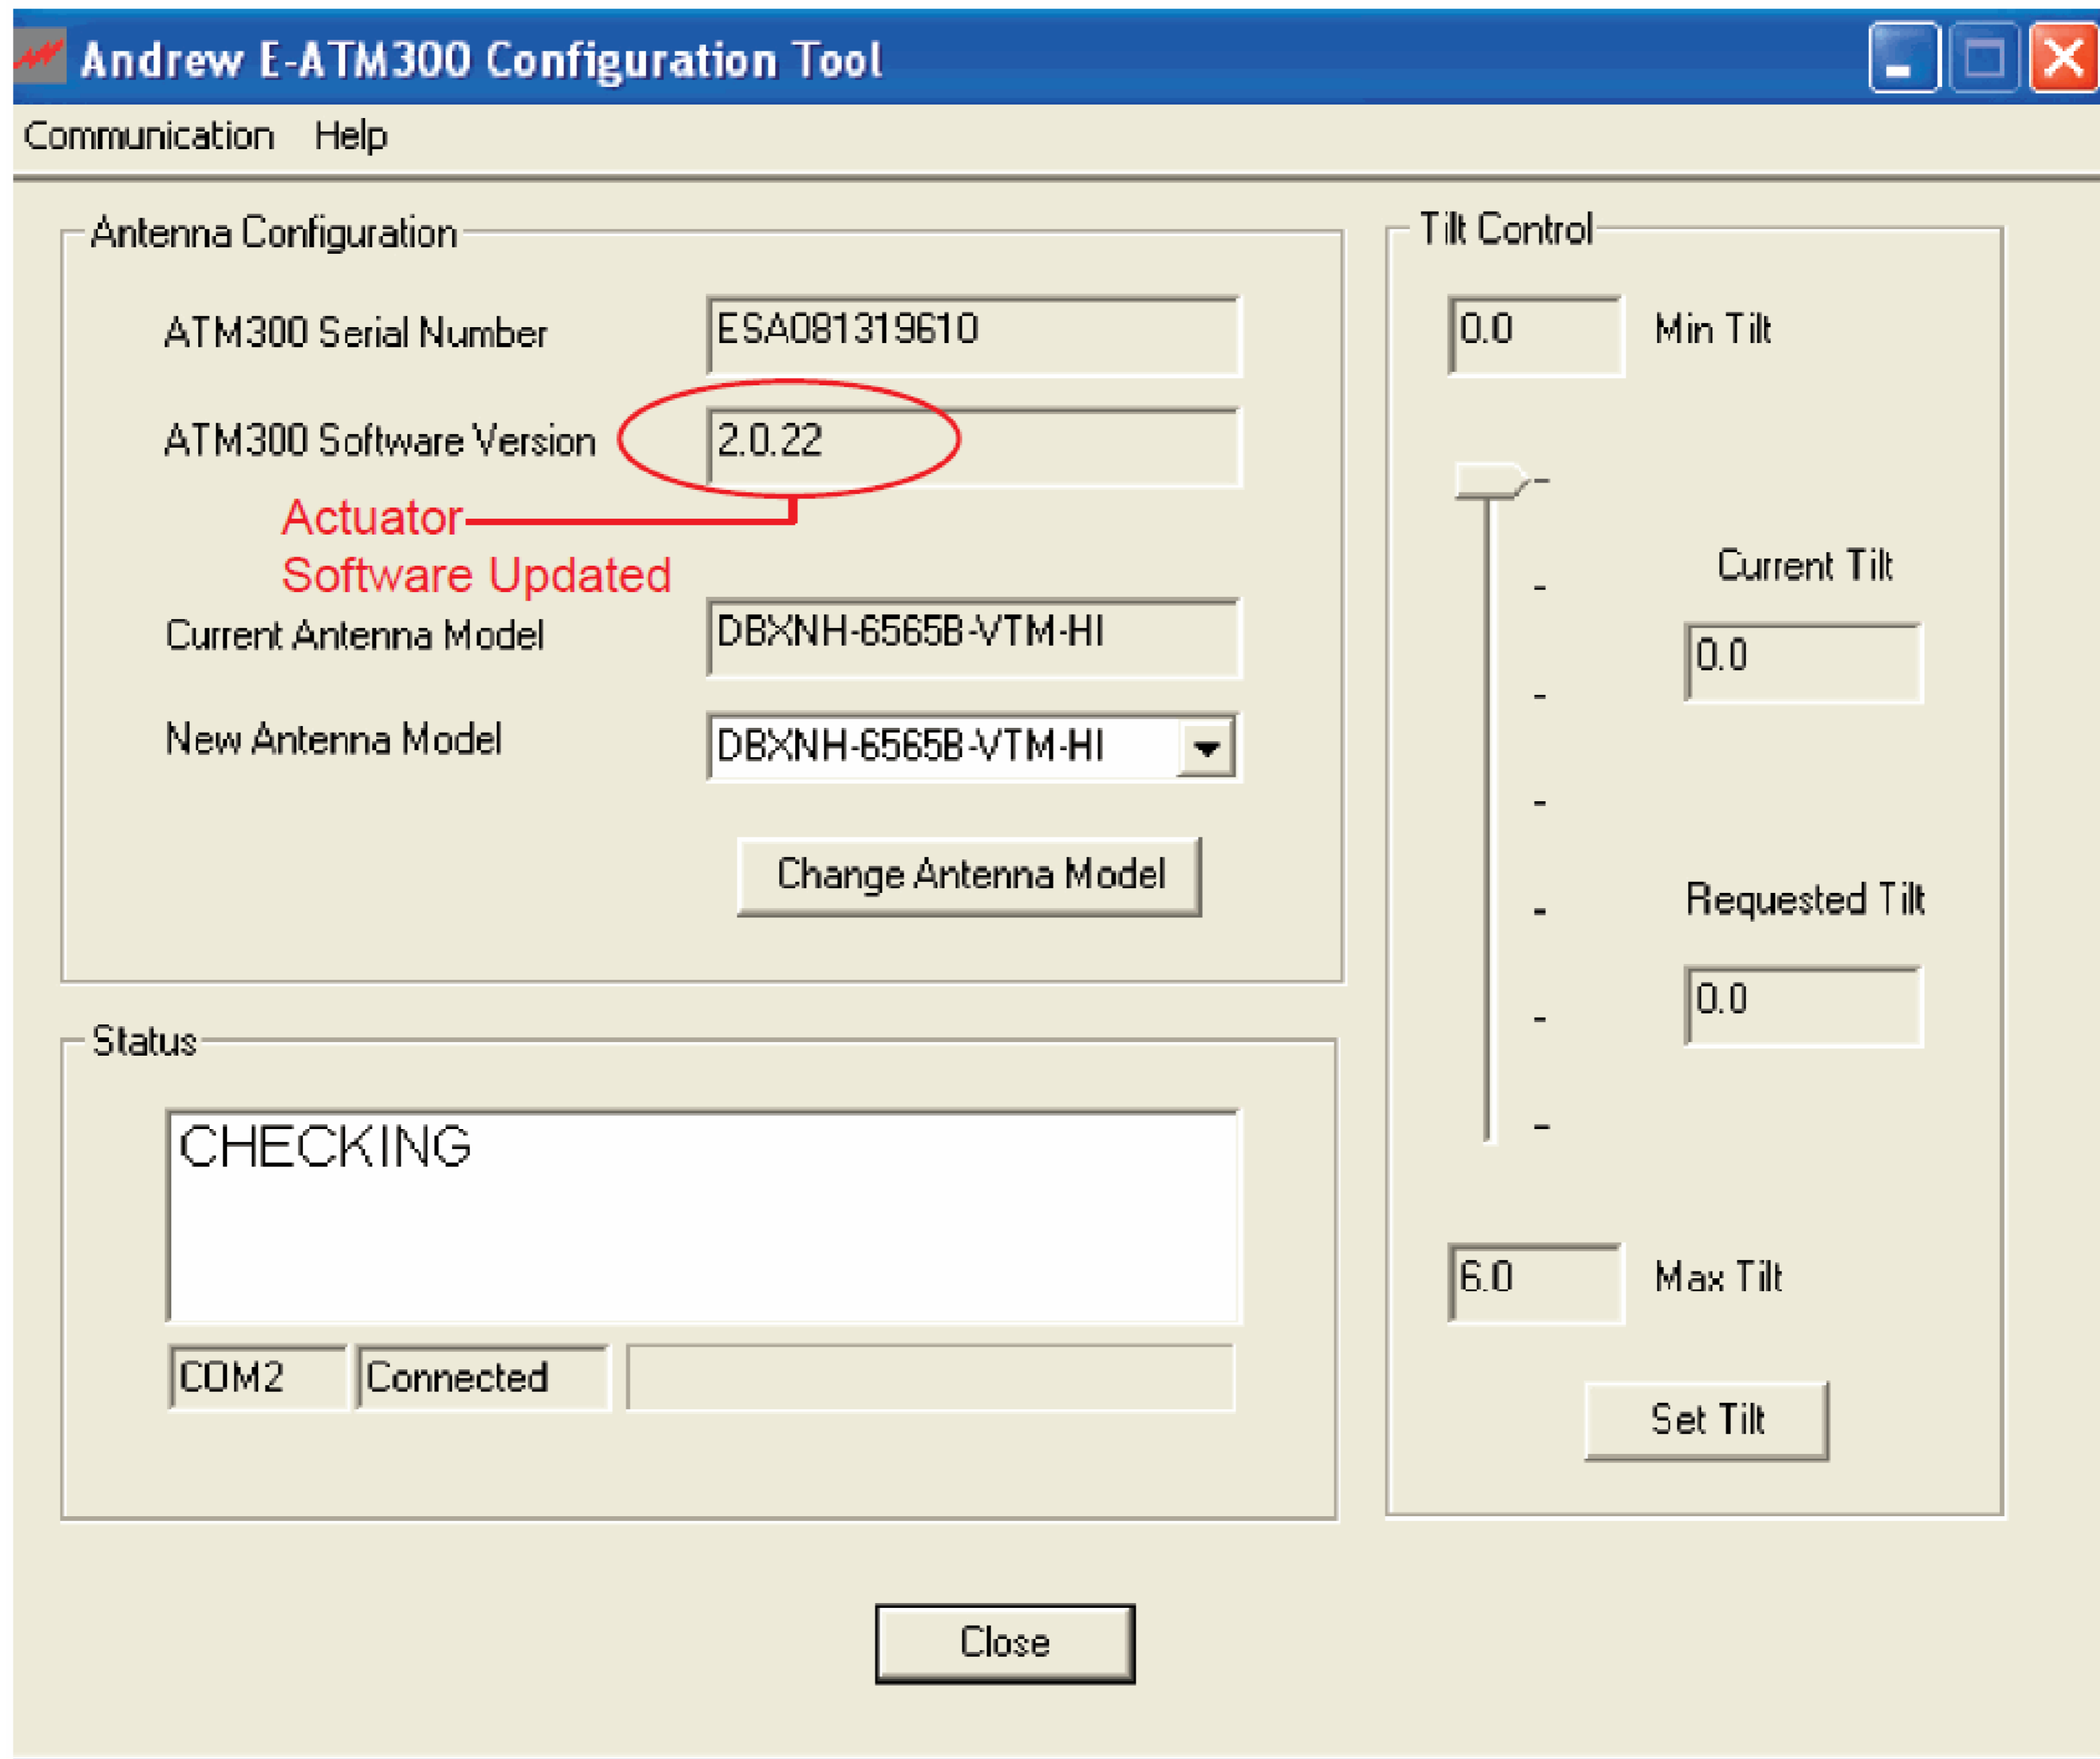

Figure 3-3. Actuator Software Version Updated.
6. The upgrade is now complete. You will see the actuator software version change (Figure 3-3).